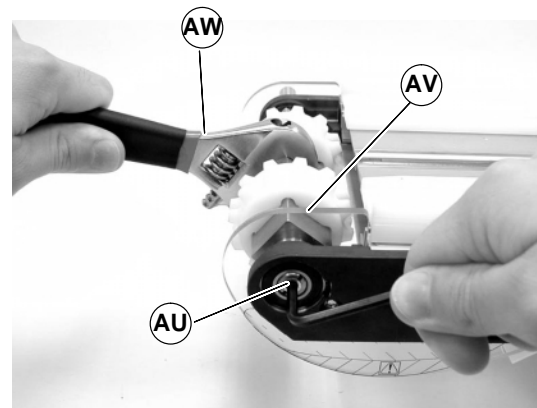

Figure 37
- On side opposite of drive shaft, loosen pulley taper screw (AU of Figure 37) with 4mm hex-key wrench. Steady pulley (AV) with adjustable wrench (AW).